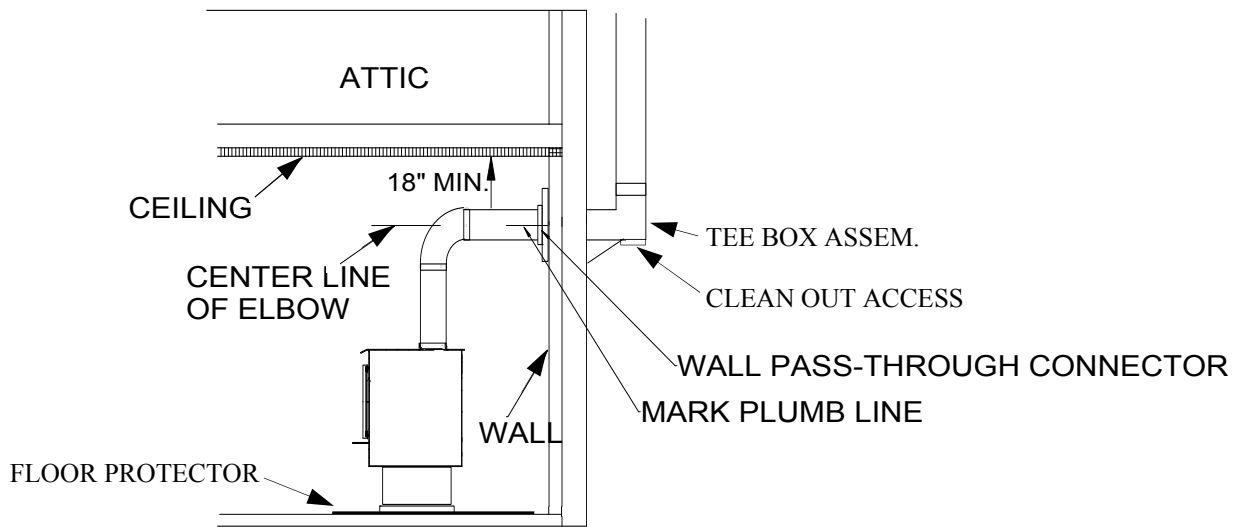

Figure 6
1. Mark the plumb line on the wall directly behind the center of the heater. (See Figure 6.)
3. Measure up so there will be at least 1/4" rise per foot of horizontal connector pipe, maintaining clearances to the ceiling as noted in (Figure 6 Page 14.) This will give you the center of the hole for the chimney penetration.